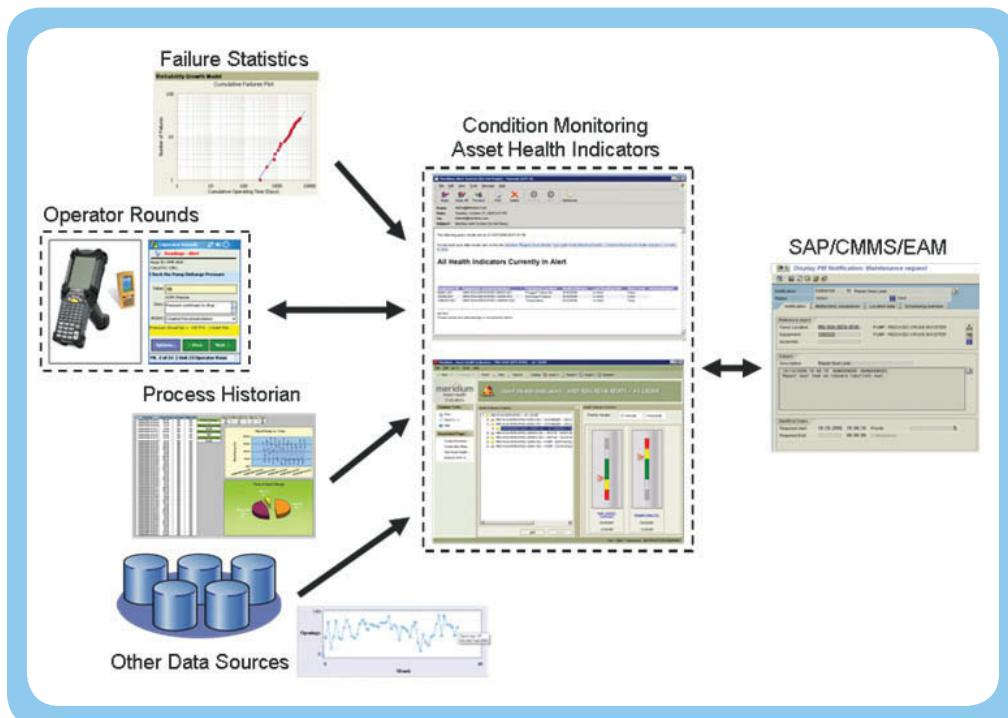

Figure 7 - Information flow constructed for maximum effectiveness.
2. Properly designed, the handhelds provide a portal to link the operators work identification efforts into the work management system. This allows the efficient identification and dispatch of failure-causing disturbances. This is illustrated in Figure 7.
objective of this data structure is to maximize information effectiveness with as little manual intervention as possible. This optimal information flow is illustrated in Figure 7.